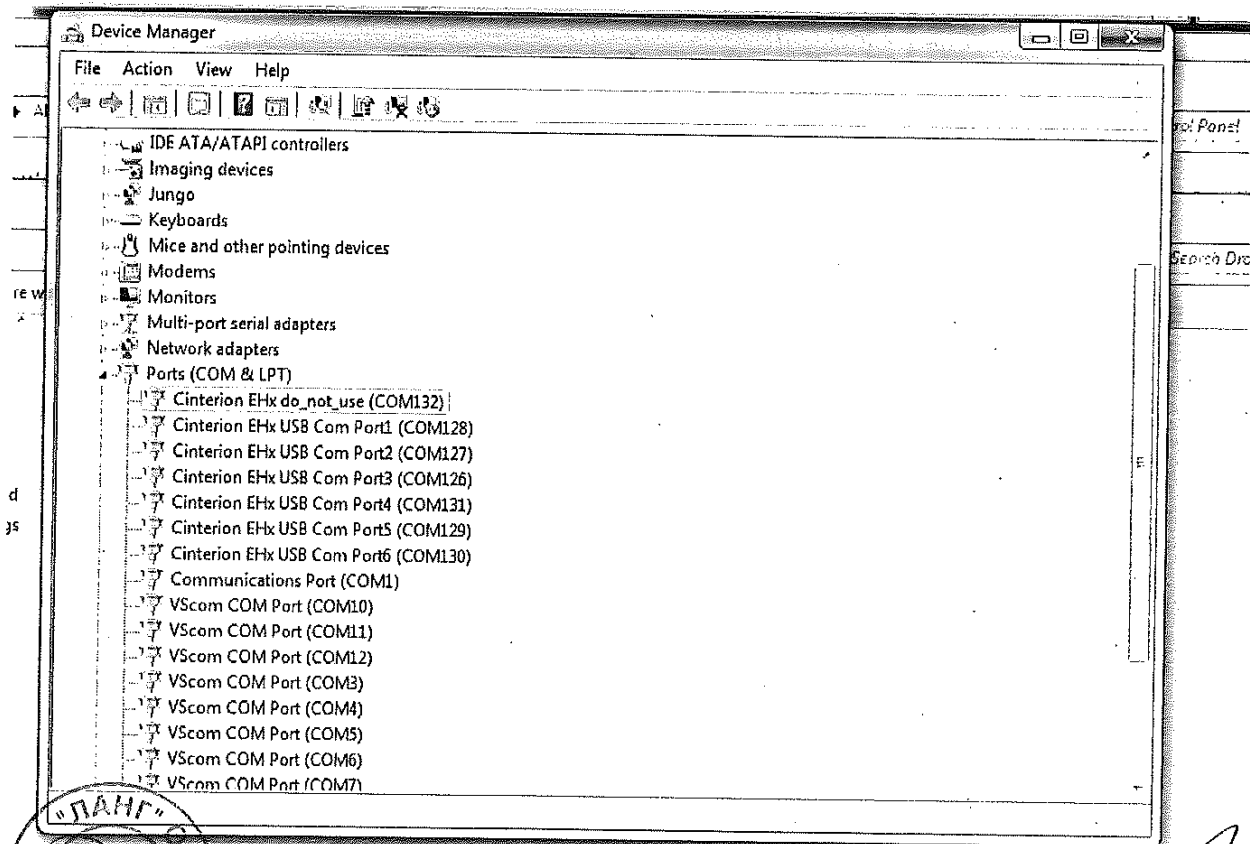

Figure 11. USB driver installation, check the installation.
- Check in the "Control Panel"/"Device Manager" that "Cinterion EHx USB Com Port number 1 to 6 is installed, see figure 11. If this is not the case, right click on the failing one and select "Update driver software" and follow the instructions.